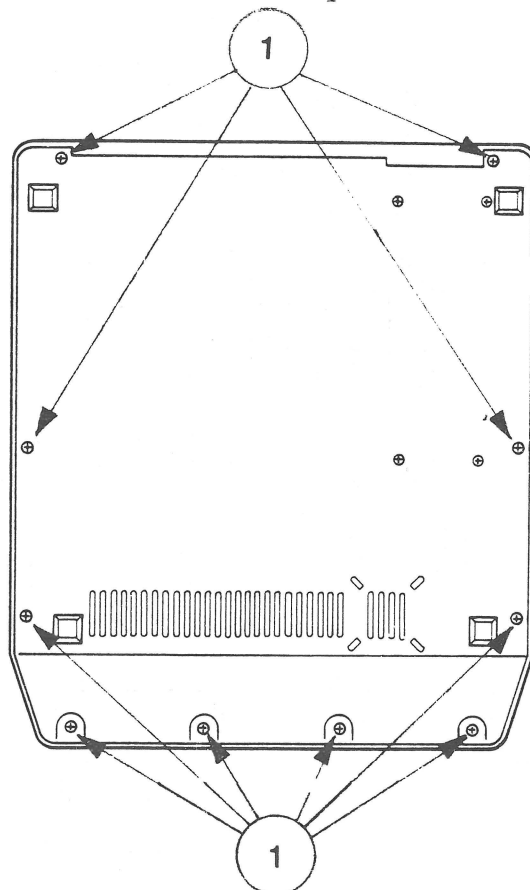

FIGURE 6
3. Remove the ten round head screws from the periphery of the base (See Figure 6, #1). (**Note:** The new Apple IIe case has only nine screws.)